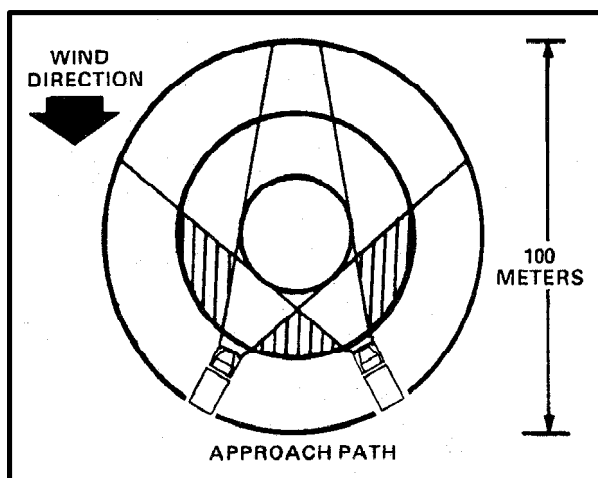

Figure 4-14. Emergency Lighting Pattern
**h. Emergency Lighting.** During an emergency, various lighting patterns can be used with proper coordination between the aircrew and ground personnel. A common method using vehicles is shown in Figure 4-14. This method should only be used in an emergency because it impairs the pilot's night vision and can disclose the landing site position. Refer to the NWP-55-9-ASH for other variations of night landing patterns (USMC).